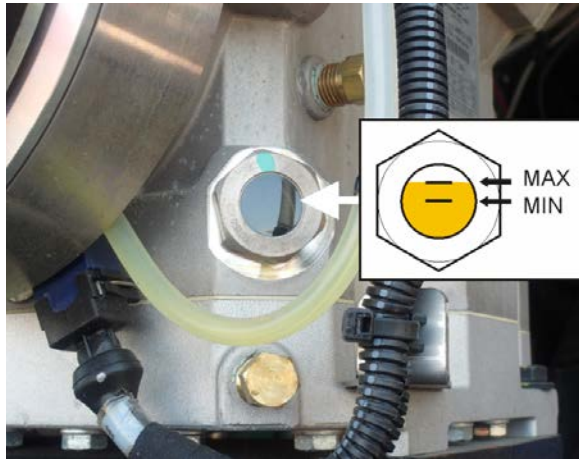

FIGURE 33: R.H. SIGHT GLASS
- R.H. sight glass: between $\frac{1}{2}$ and $\frac{3}{4}$ of sight glass height (Figure 33).